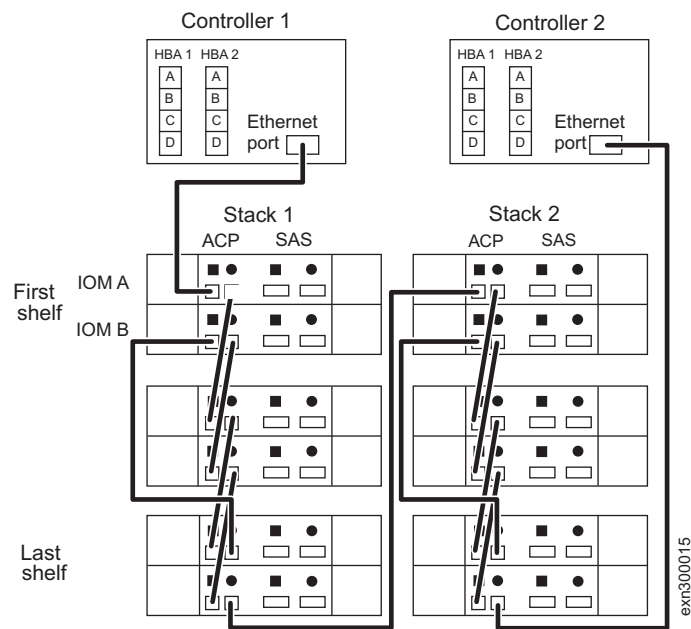

Figure 16. Cable the ACP connections
4. Cable the ACP connections, as shown in Figure 16.